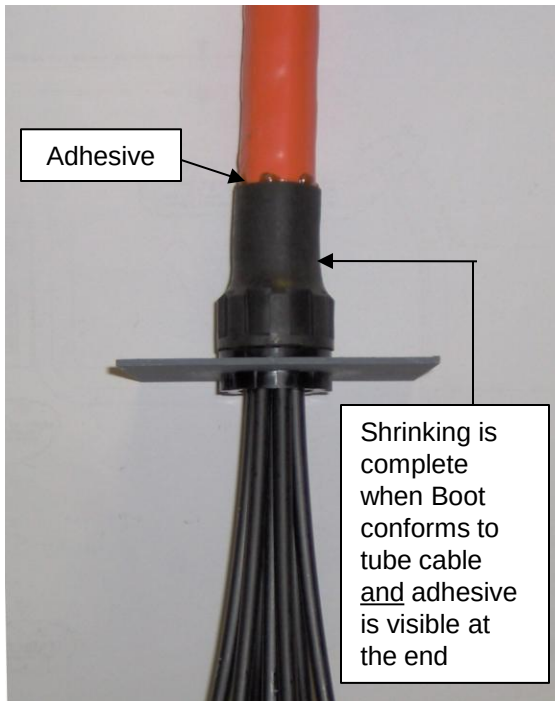
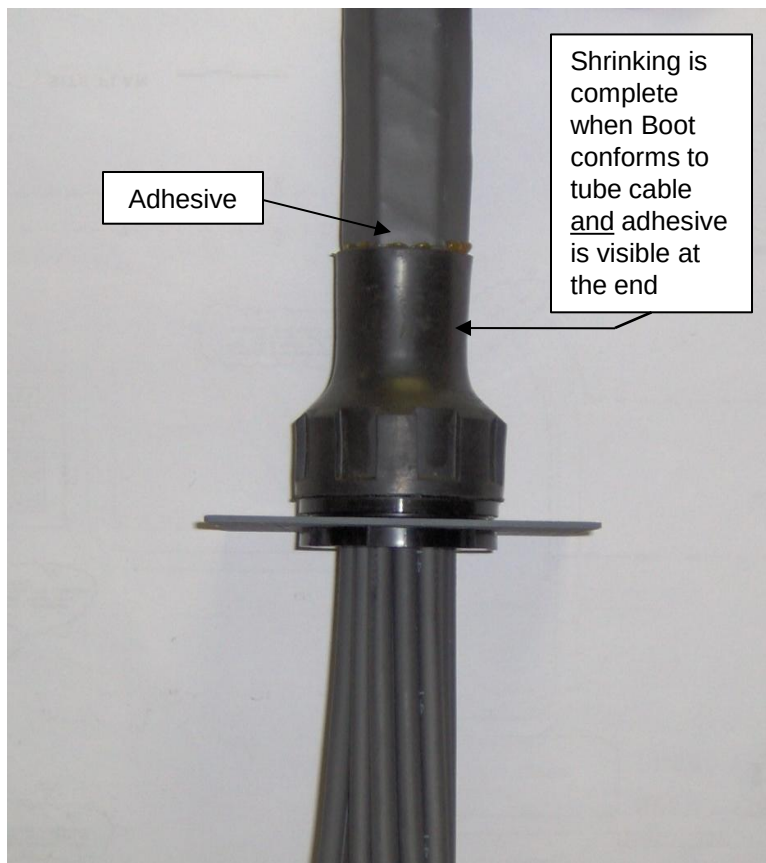

Figure 6a
Figure 6b
8.12 Continue shrinking boot uniformly until boot conforms to tube cable shape and a small amount of hot-melt adhesive is visible at the end of the boot signifying a good seal was made. See Fig. 6a and Fig. 6b.